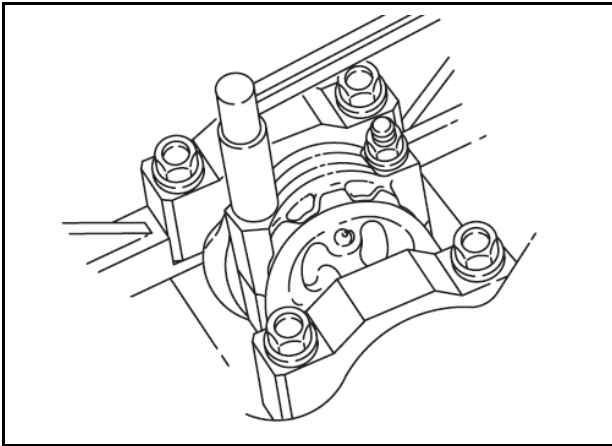

Fig.8-Torque Rod Cap
2. Assemble connecting rod cap with bearing and torque to 36.0 Nm, Fig.8.